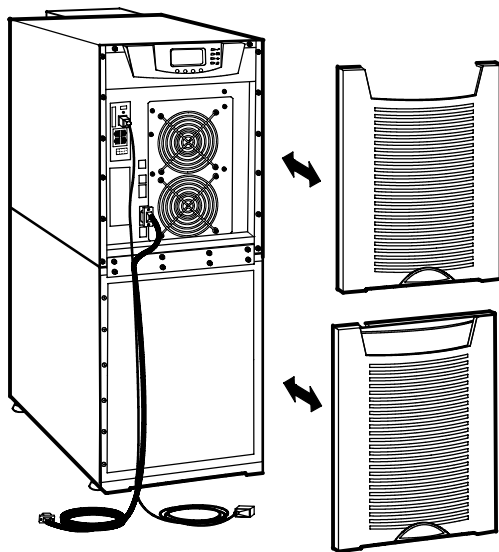

Figure 38. Reinstalling the Front Covers
6. Reinstall the front covers, starting with the bottom cabinet (see Figure 38).